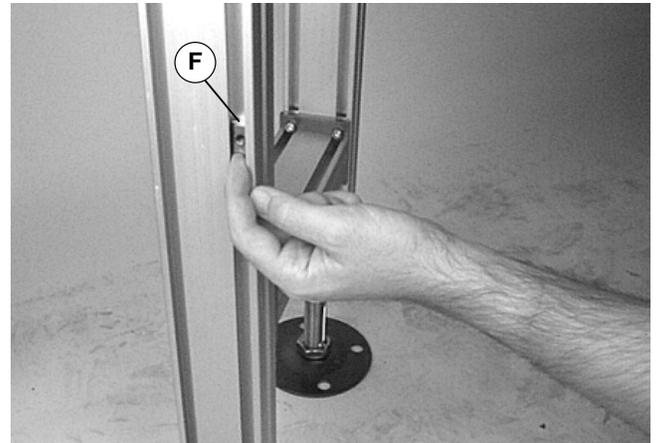

Figure 11
- Install T-bar (F of Figure 11) in T-slot.